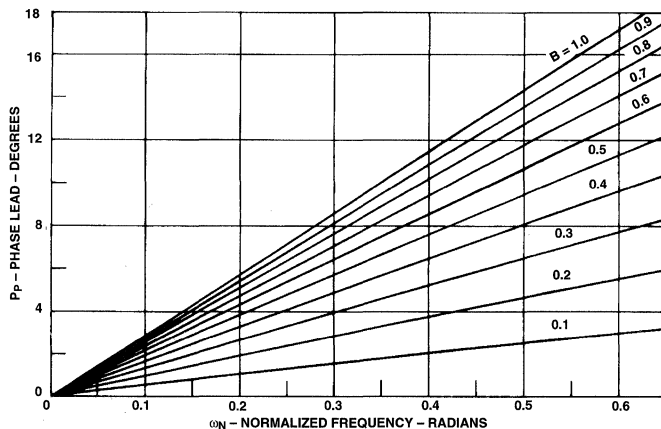

Figure 11. Phase Lead Contribution of the Pole Term.
Figures 11, 12, 13, and 14 show expanded versions of the phase and magnitude graphs for the pole (B) and zero (A) term. These graphs have been expanded for values of the normalized frequency [ω_N(ω)] between 0.0 and 0.65. This range of values is most often used due to the requirement that the sampling frequency (1/t) must be at least 10 times the system bandwidth (in Hertz).
1. On Figure 11, choose a large value for the pole term (B) to contribute significant phase lead $[P_p(\omega_{NC}')]$ at the normalized desired gain crossover frequency of the system (ω_{NC}') .